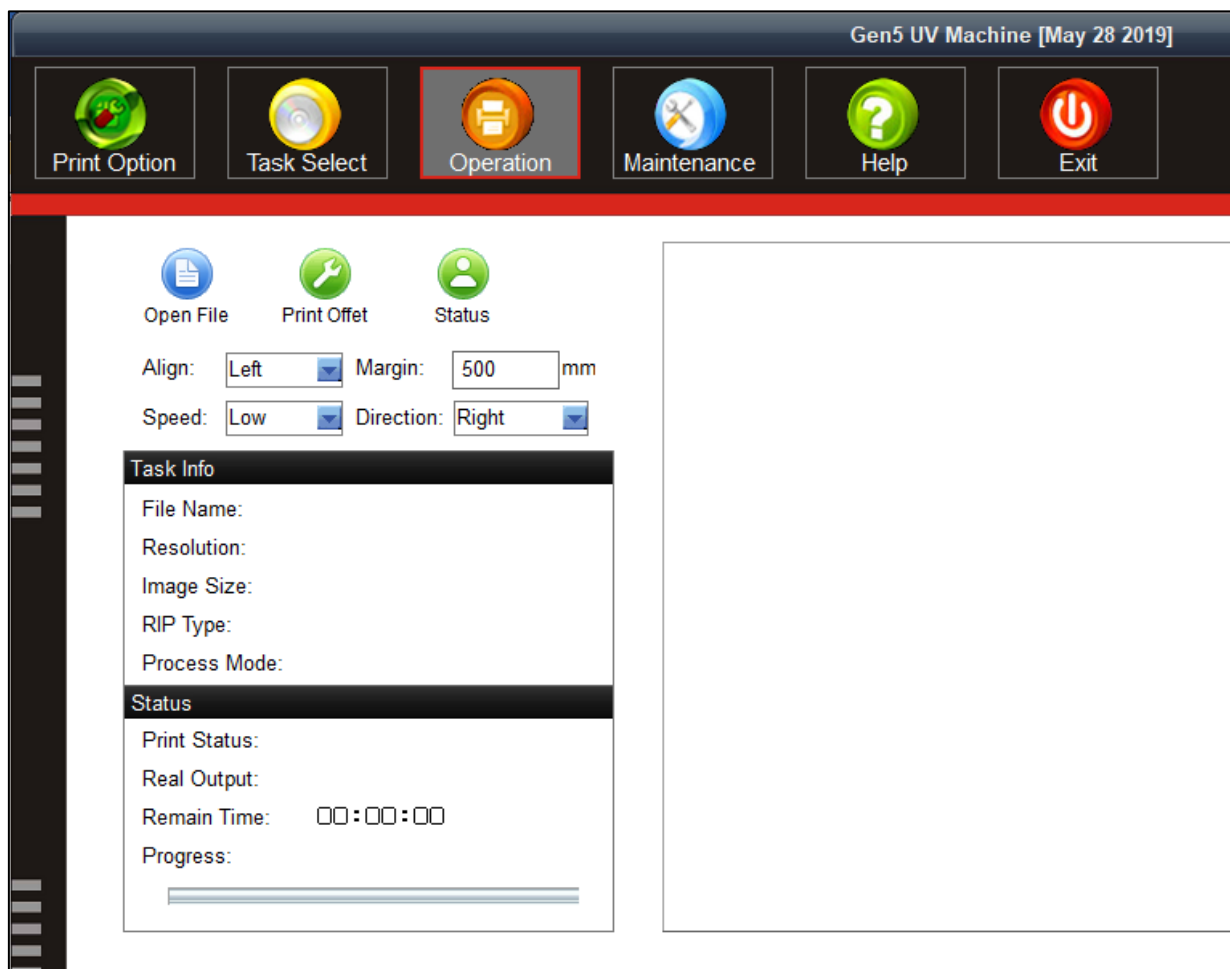

Fig 22: Displaying the Operation Menu
**Step 1:** Click on the **Open File** icon on the **Operation** screen (Refer to Fig 22). The **Open** dialog box appears on the screen, as shown below: